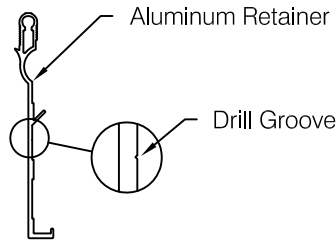

fig 2
- Step 3:** Layout aluminum retainer "face up", mark and drill bracket mounting holes. Use groove in retainer to locate centerline of drilling, see **fig 2**.